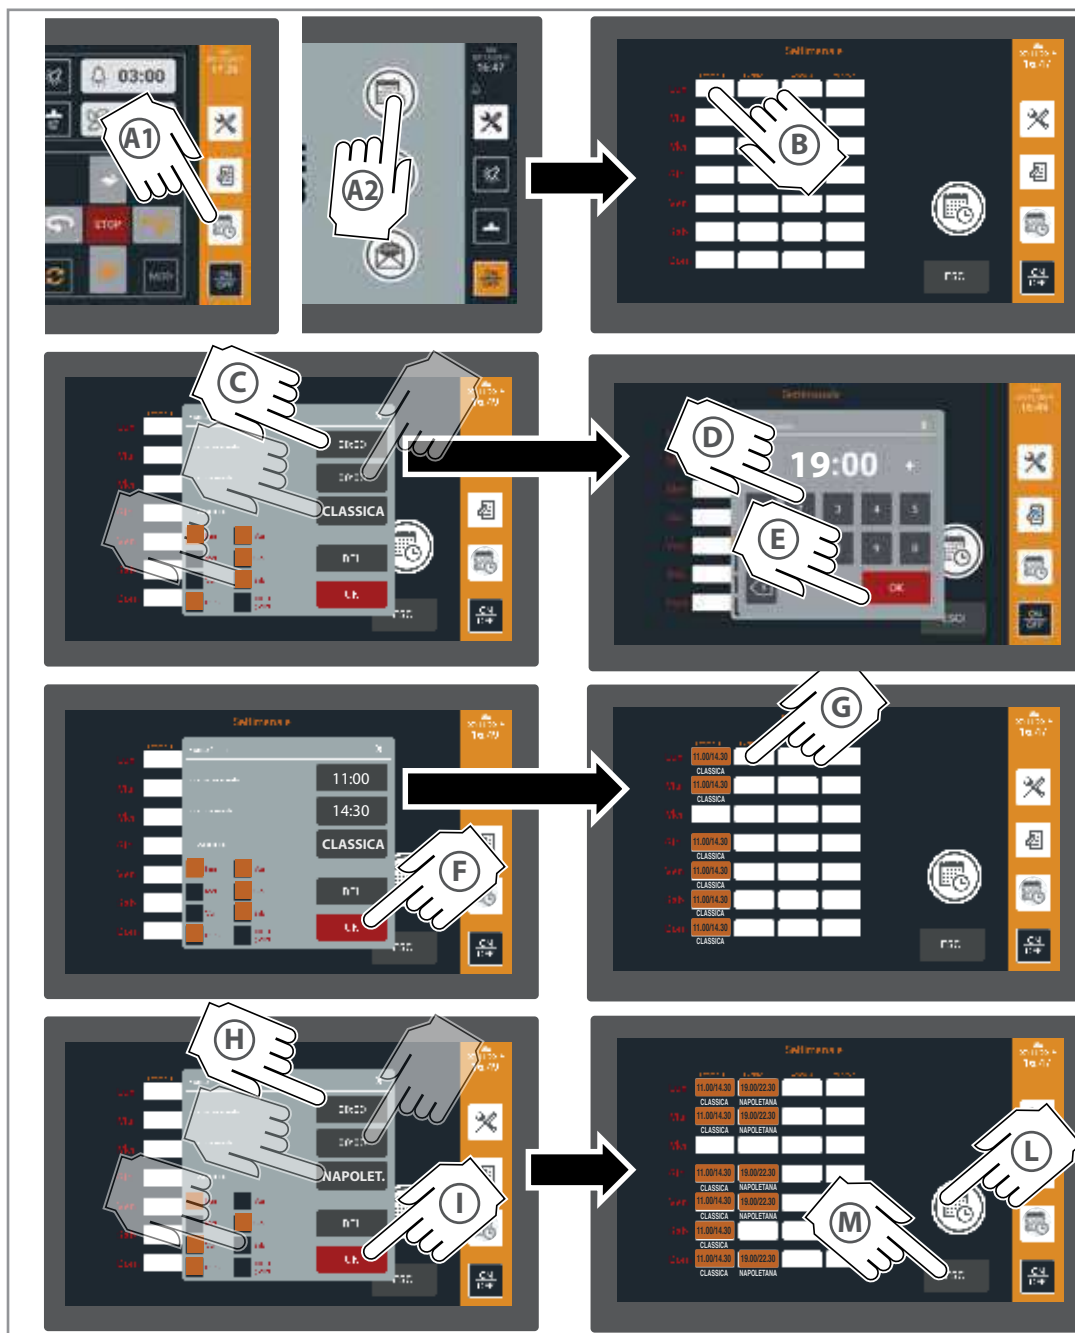

Fig. 23
► Fig. 23
To **modify** events, repeat the programming procedure of **Fig. 23** overwriting the previously set values.